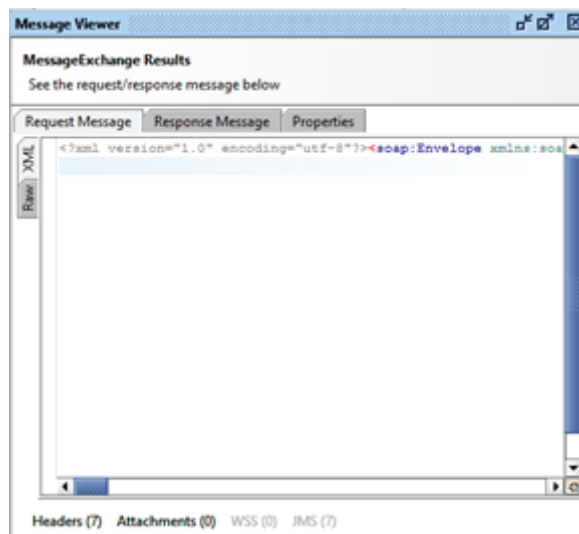

Figure 70 – Message Viewer
9. Double-click the message to view the XML generated (Figure 70).